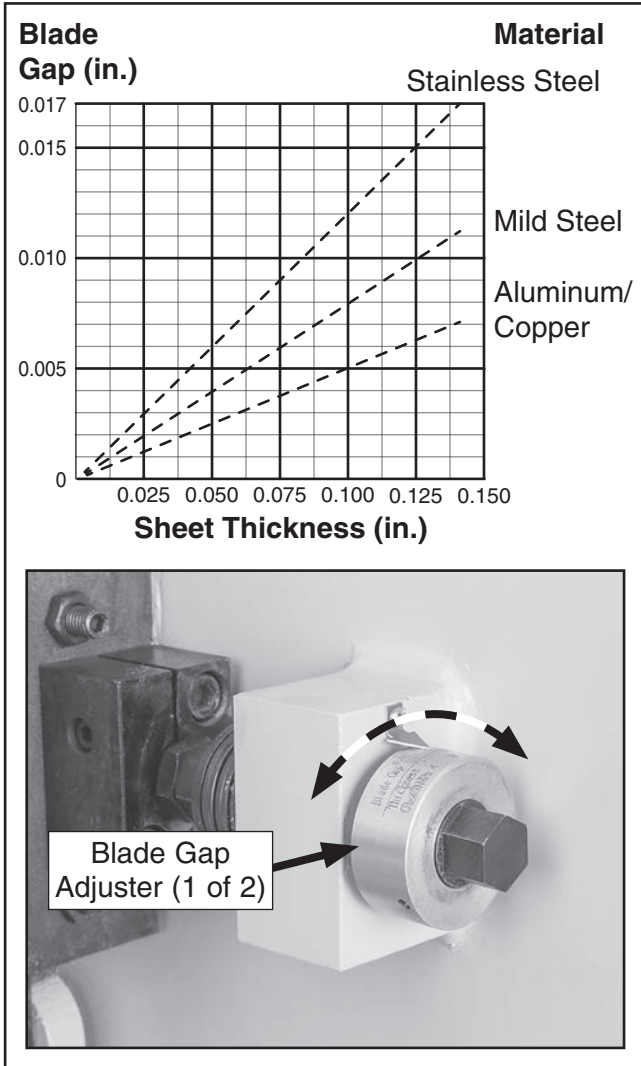

Figure 30. Measure workpiece, then set both blade gap adjusters according to chart.
2. Set blade gap adjusters equally to match workpiece material thickness (see **Figure 30**).